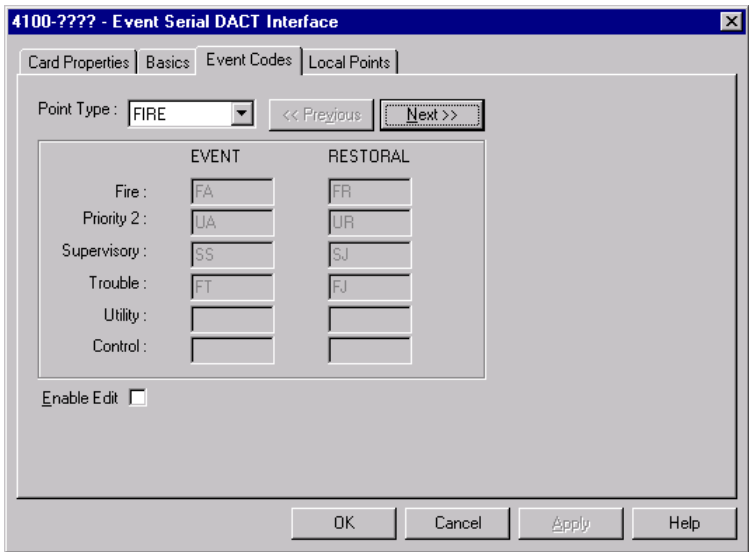

Figure 6-8. Event Codes Tab
The Event Codes tab, shown in Figure 6-8, allows you to edit the event codes associated with each of the 4100U point types. Should an event (alarm, trouble, supervisory) occur to a point associated with one of the point types, the DACT sends the specified event code to the central station.
2. Click on the Enable Edit button at the bottom of the screen (refer to Figure 6-8).